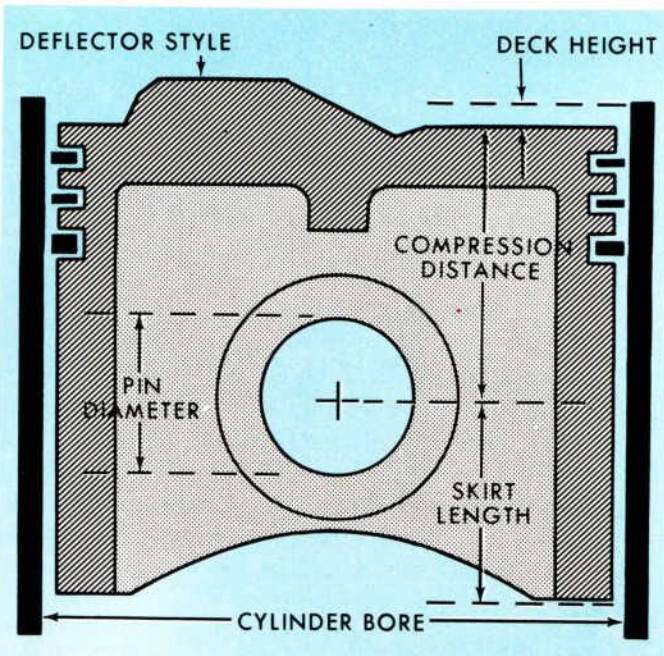

FIGURE 97. CHECKING DECK HEIGHT
1. Before disassembly of components from the block, check the deck height. This is the distance from the top of the piston (at T.D.C.) to the top or deck surface of the block. This is a critical dimension as it relates directly to compression ratio. It must be held constant to ensure a proper balance of combustion chamber volumes when the head is installed. (See Figure 97.)